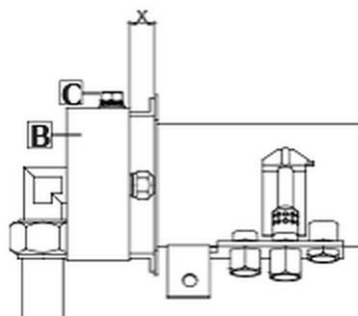

Fig. 8
The distance specified for adjusting the primary air is shown in Fig. 8 and Table 2.
1. Loosen the fastening screw (C, Fig. 8) of the primary air control bushing (B).
2. Position the bushing (B) at distance "X" according to the type of gas installed.
3. Tighten the fastening screw (C).